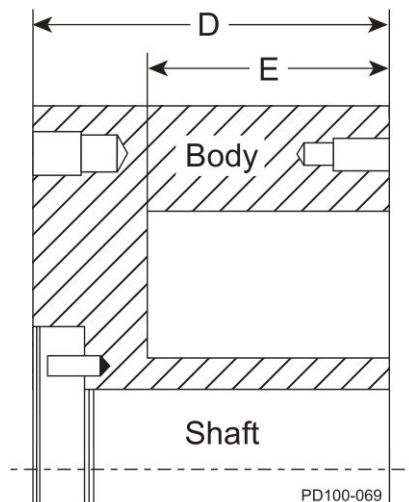
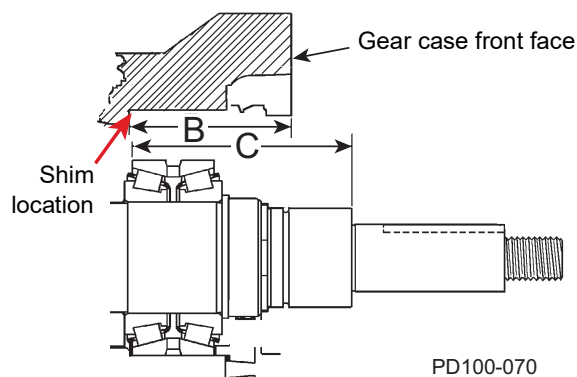

Figure 54 - Measure D and E
Figure 55 - Measure B and C
- If it is necessary to calculate the required shims for replacement shafts, bearings or both, refer to Figure 55 and Figure 54; carry measurements and calculations to three decimal places (e.g., .059).
- Measure “B” in the gear case and “C” on the shaft (Figure 55).
- Measure “D” and “E” on the body (Figure 54).
- (Callouts for both Figure 54 and Figure 55)